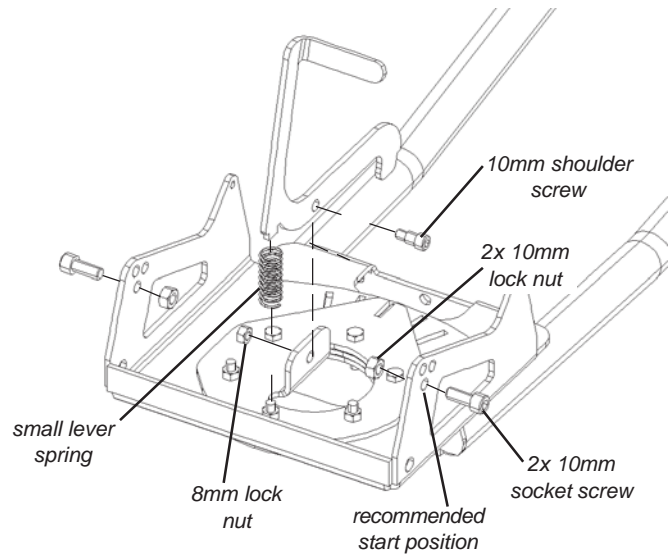

Figure 1 Assemble Plow Lever
1. Assemble the plow lever arm per figure 1. Run a 10mm dia shoulder bolt through the lever arm side and out the center hole in the plow base. Terminate with a 8mm dia lock nut. Tighten until the lever arm is firmly against the plow base, but back off the torque until the lever arm rotates freely.
2. Attach two socket screws to the side flanges of the plow base as shown in figure 1. Place the socket screw in one of the three holes in the side flange, and place the other socket screw in the same location on the opposite side. Terminate with a 10mm dia lock nut.